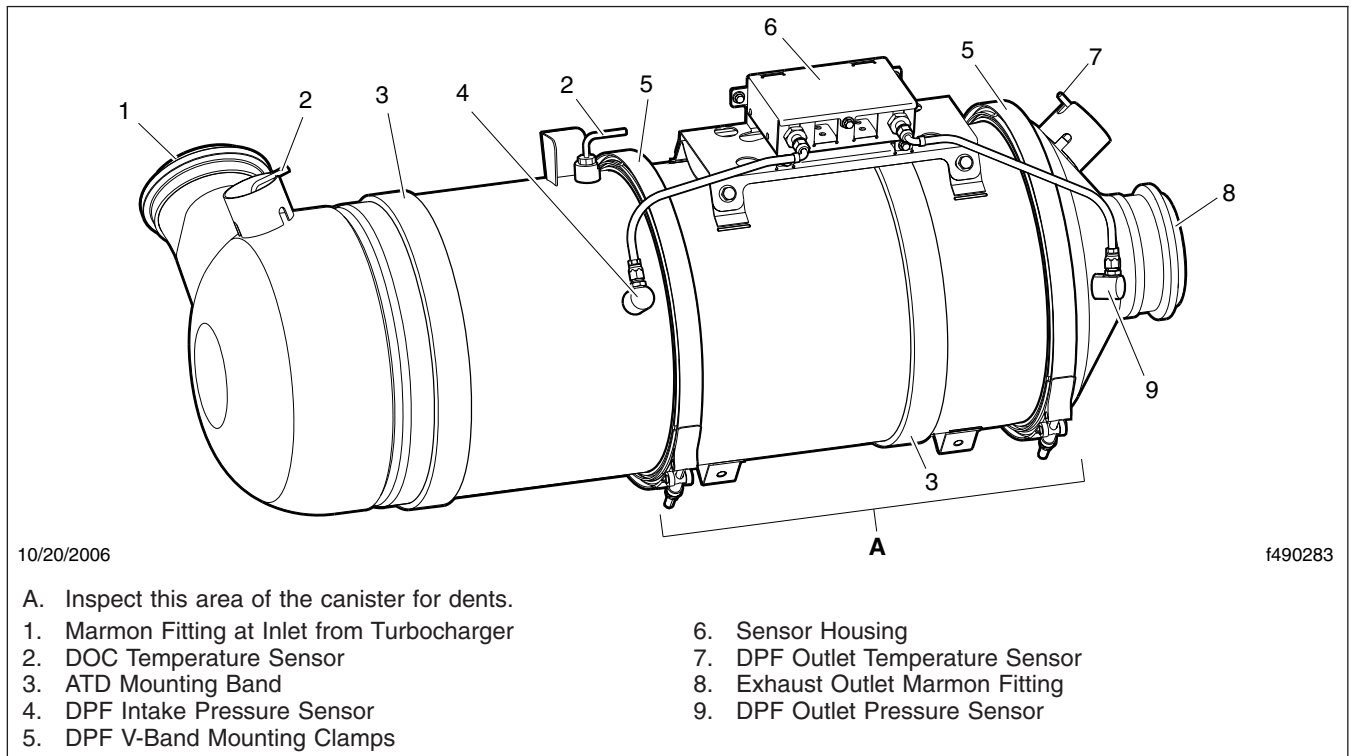

Fig. 4, Typical After-Treatment Device
IMPORTANT: The Environmental Protection Agency's 2007 regulations require lower exhaust emissions, thus requiring new exhaust system components. See Fig. 4. In particular the after-treatment device (ATD), which is part of the after-treatment system (ATS), requires special attention during regularly scheduled maintenance inspections. If any discrepancies are discovered, refer to the engine manufacturer's service literature for repair instructions.
8. Check the DPF exterior surface for dents or other damage. See Item A of **Fig. 4**. A dent over 3 inches (76 mm) in diameter and 1/4-inch (6-mm) deep could cause internal damage to the DPF, causing it to malfunction.